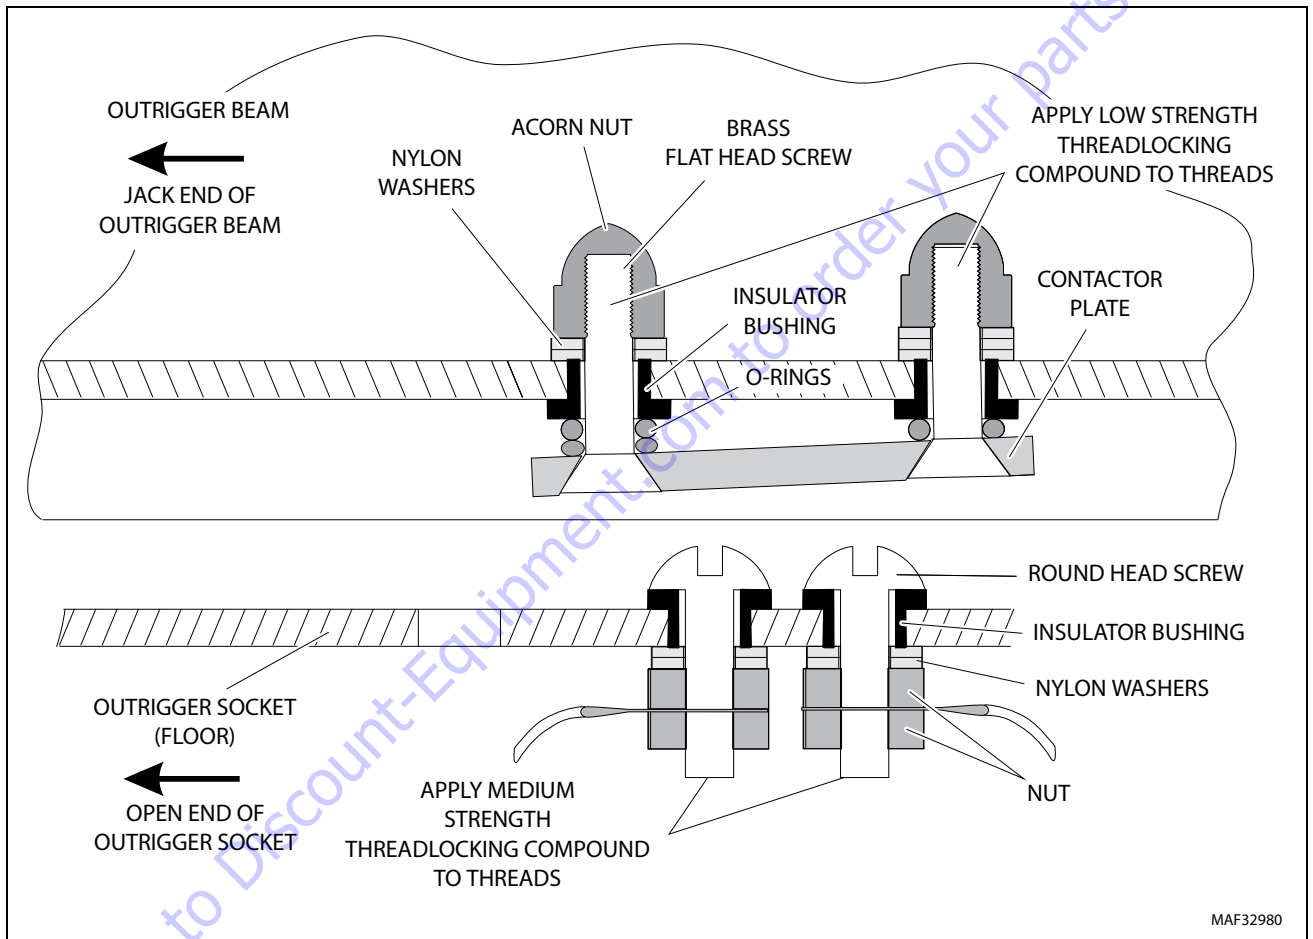

Figure 3-5. Outrigger Socket Contactor Heads and Outrigger Beam - Contactor Plate Mounting Hardware (ORIGINAL AND 5/2001 - DESIGN)
Check for loose wire(s) on contactor screws under outrigger sockets (causing an open circuit).	Properly reinstall wire to contactor screw per Figure 3-5, and instructions in Section 3.6, Outrigger Interlock Contacts.
Check for loose wire(s) on contactor screws under outrigger sockets (causing an open circuit).	Properly reinstall wire to contactor screw per Figure 3-5, and instructions in Section 3.6, "Outrigger Interlock Contacts."
It is very important that the outrigger interlock contacts located on the bottom surface inside the outrigger sockets of the base frame, and the contactor plate on the bottom of each outrigger beam are installed correctly. These parts when installed properly will be insulated from (-) negative ground. Read the following steps and see Figure 3-5. for correct installation. Also see Troubleshooting Tables 3-1 & 3-2. for any reference to possible problems with interlock contacts.
(See Figure 3-5.)
2. Place one (1) #8-32UNC x 5/8 in. long contactor screw through each insulating grommet as shown in Figure 3-5.
3. Install two (2) #8 nylon washers onto contactor screw threads against insulating grommet, on the underside of the outrigger socket.
5. Install one (1) standard #8 brass nut and thread in against nylon washer until insulating grommet just starts to compress.